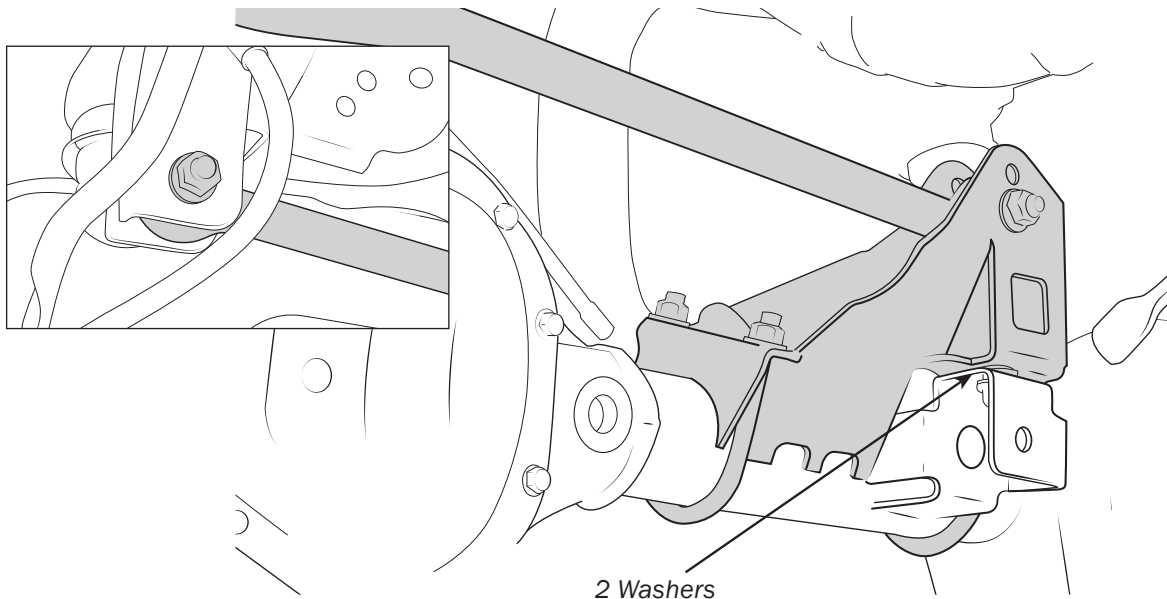

Figure 6
- C. Install the track bar tower with the supplied hardware using 2 of the 1/2" washers as spacers as shown. (Fig. 6) DO NOT TORQUE THE U-BOLTS TO MORE THAN 40 ft-lbs.